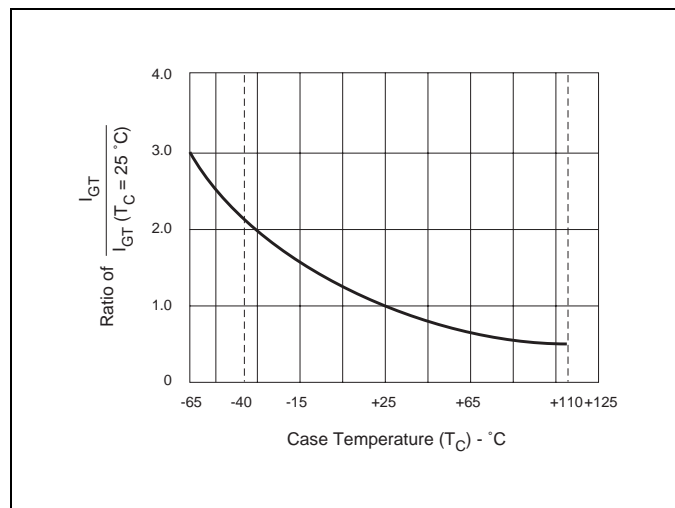

Figure E1.7 Normalized DC Gate Trigger Current for All Quadrants versus Case Temperature
- See Figure E1.7 for  $I_{GT}$  versus  $T_C$ .